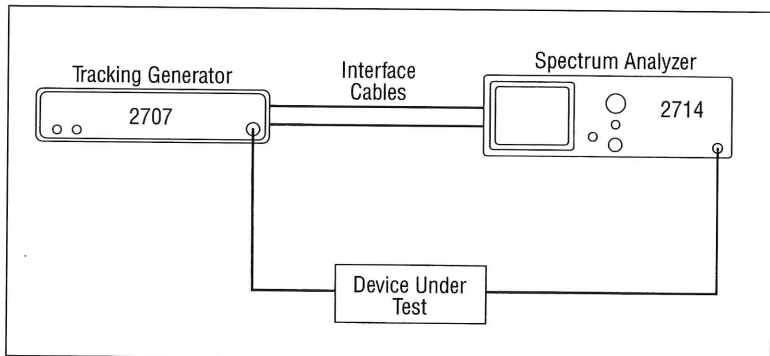

Figure 34. Tracking generator/spectrum analyzer test setup.
1. Connect the equipment as in Figure 34. Temporarily connect the output of the tracking generator directly to the input of the spectrum analyzer. For accurate results, all input and output impedances should match. Use pads where necessary to provide correct impedance matches. Set the generator output amplitude (press [DEMOD] / [5] / [value]) to the device-
connect the output of the DUT to the spectrum analyzer as shown in Figure 34. View the B register. A second trace representing the device output as a function of frequency appears. The difference between the A and B registers is the transfer function.